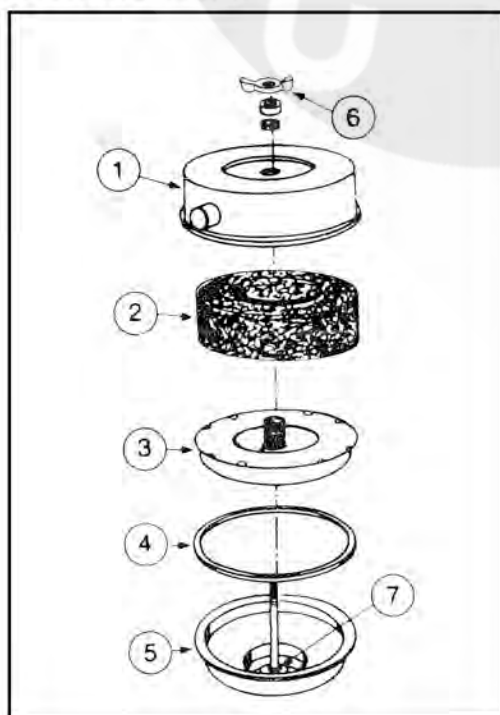

Fig. 2-8 Crankcase breather --- element with vapor barrier
1. Remove wing nut (Fig. 2-8), flat washer and rubber washer securing cover (1), to breather body (5).
2. Lift off cover and lift out breather element (2), vapor element (3) and gasket (4).